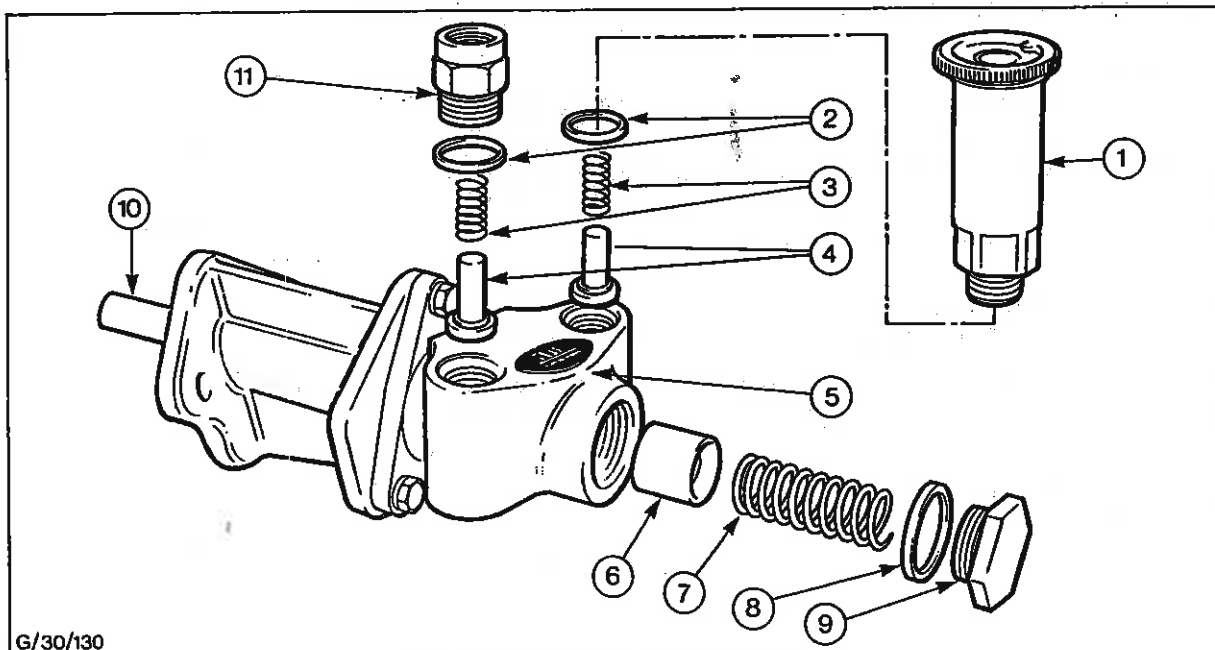

Fig. 4 - Exploded View of High Pressure Pump
- The following operations 1 to 15 relate to the pump illustrated in Fig. 4.